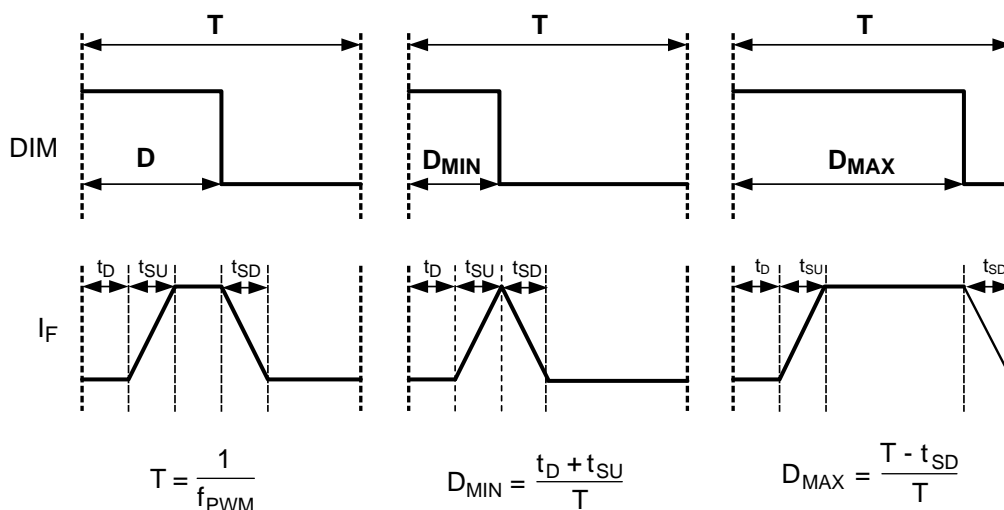

Figure 3. PWM Dimming Limits
The **DIM1** terminal on the PCB provides an input for a logic-level pulse width modulation signal for dimming of the LED array. In order to fully enable and disable the LM3406HV the PWM signal should have a maximum logic low level of 0.8V and a minimum logic high level of 2.2V. Graphical representations of minimum and maximum PWM duty cycle are illustrated in Figure 3. The interval t_D represents the delay from a logic high at the DIM pin to the rise in output current. The quantities t_{SU} and t_{SD} represent the time needed for the output current to slew up to steady state and slew down to zero, respectively. It is important to note that t_D is a property of the LM3406HV and remains fixed in all applications. The slew rates t_{SU} and t_{SD} are a function of the external circuit parameters V_{IN} , V_O , I_F , inductance (L) and the LM3406HV parameter $t_{OFF-MIN}$. Response times for a circuit driving three white LEDs at 1A from 24V are shown in the Typical Performance Characteristics section, but the user should test every new circuit to determine the actual PWM dimming response.